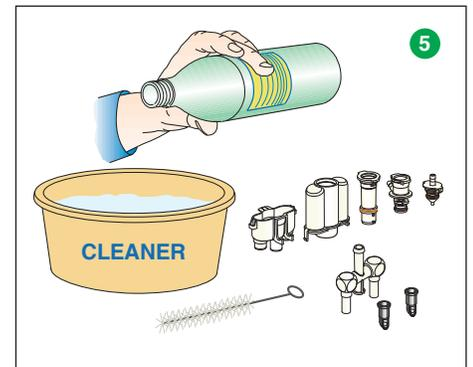

Fig. 4
- 5 Wash all cappuccino maker nozzle and flow divider nozzle parts in cleaning solution using a small brush. (Fig. 4)